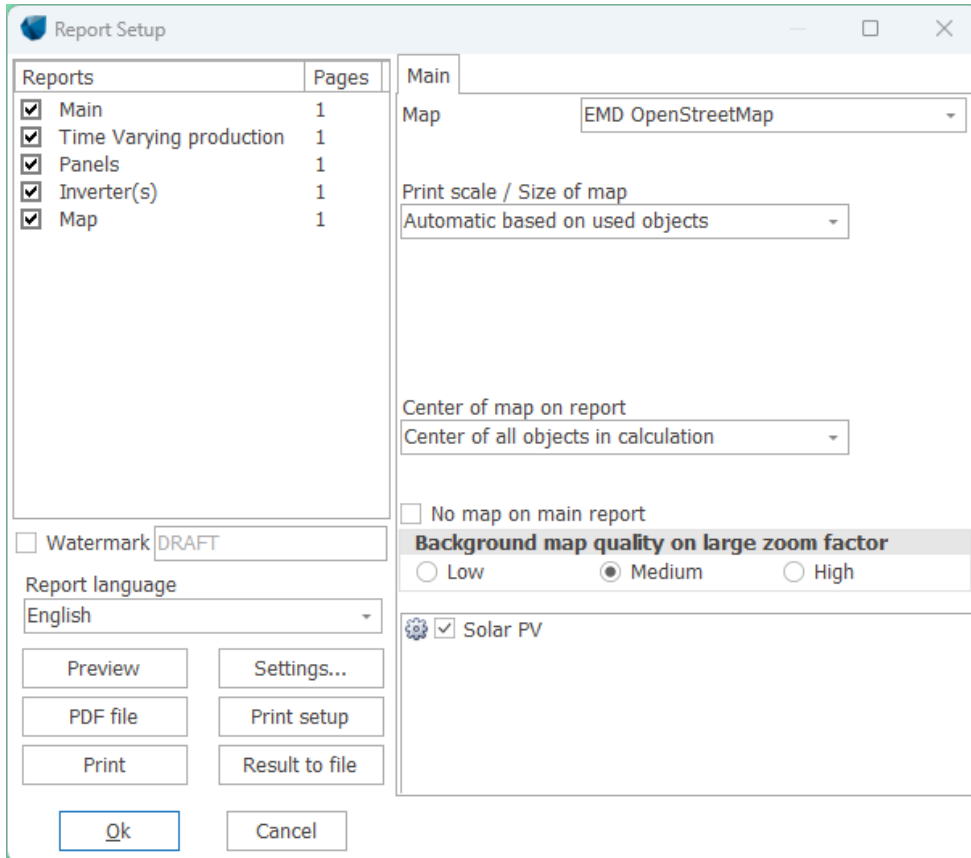

Figure 104 Print options.
**Print** opens the Report Setup, see Figure 104, from where the report can be sent to the printer, to a .pdf document or previewed on the screen.